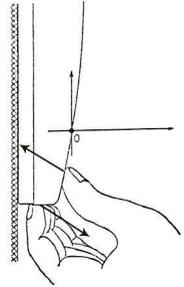

Figure 2.
2.1.6 Remove the front cover of the module by bending it relative to point «0» in accordance with Figure 2. Place your thumbs over the clips as close to the point «0» as you can.
2.2.7 Close the front cover of the module in the order which is opposite to that one in which the cover was open (see Figure 2).